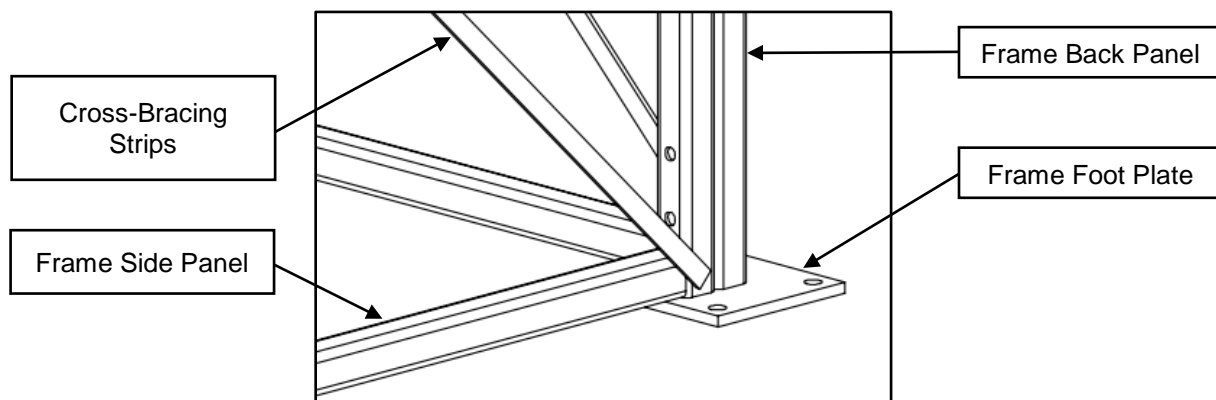

Figure 6. Frame Side Panel on Back Frame Foot
12. Set the back of each of the two (2) Side Frame Panels on the Frame Feet plates of the Back Panel with the mounting holes aligned as shown in Figure 6. Confirm the panel cross-bracing strips are on the outside.